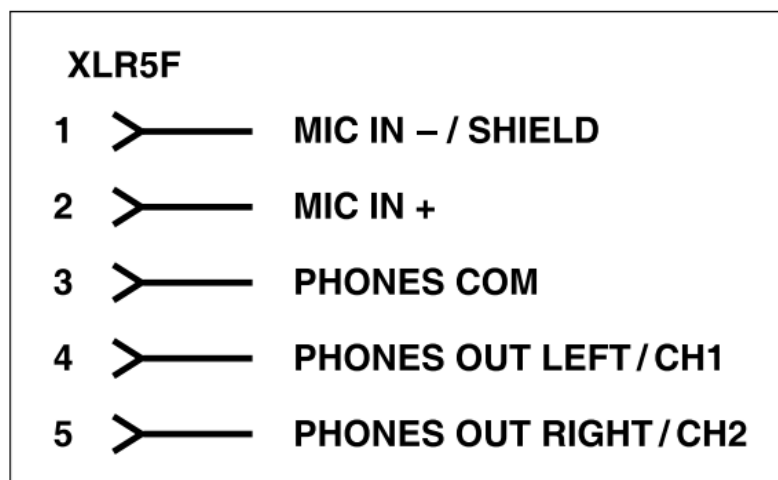

Figure 2. Headset A connection pinout chart
- The Model 207A provides a 5-pin female XLR connector that interfaces with the microphone and head-phone connections of a single- or dual-ear intercom or broadcast-style headset. The connector is labeled Headset A. Refer to Figure 2 for connection details. The microphone input connections are compatible with most unbalanced dynamic or electret (low- voltage DC-powered) microphones. A balanced dynamic microphone should, in most cases, also function correctly if its signal – (low) is connected to Model 207A’s mic in –/shield connection. No support is provided for microphones that require P12 or P48 phantom power.